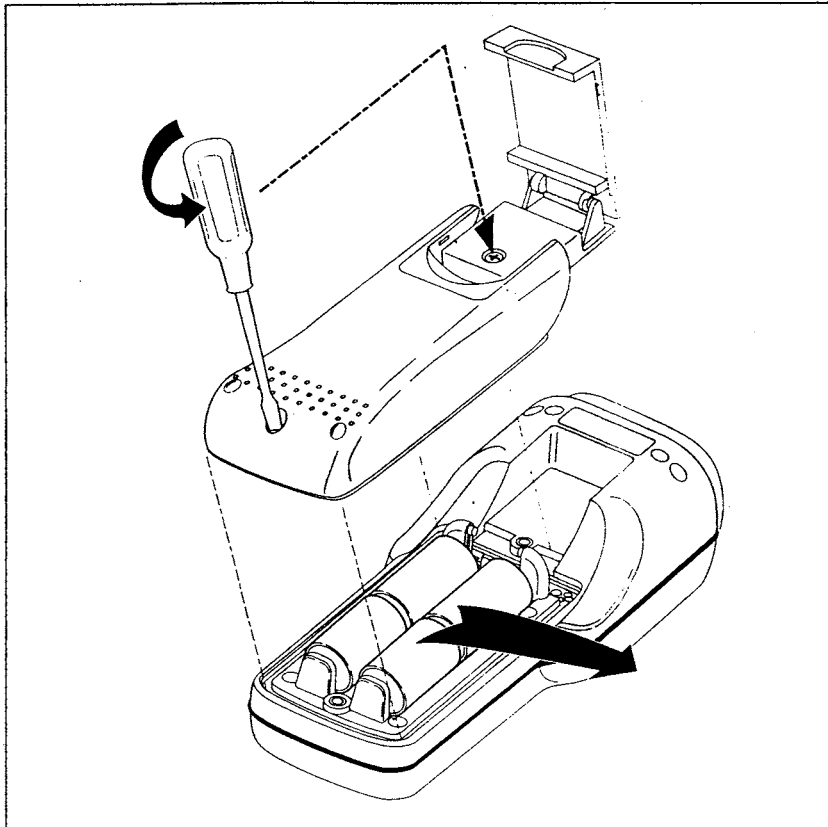

Figure 23. Battery Replacement
Referring to Figure 23, use the following procedure to replace the batteries:
5. Replace the C cells (alkaline or recharged NiCad) as shown in Figure 23. Observe the battery polarity shown in the battery compartment.